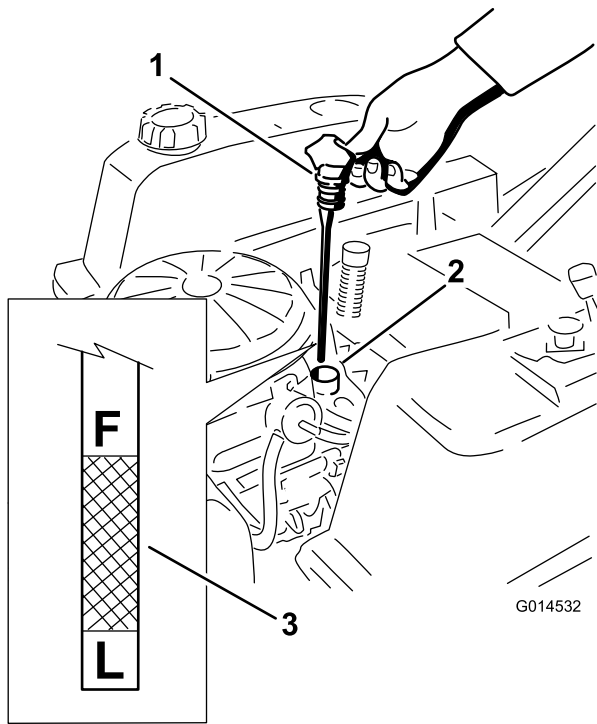
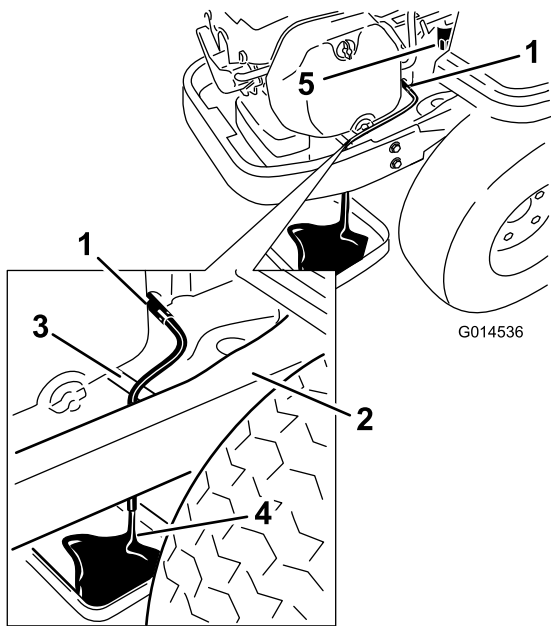

Figure 30
Figure 32
- Remove the dipstick and check the oil level. (Figure 30).
- Place a pan underneath machine directly below the drain hose as shown in Figure 32.
8. Turn the drain valve 1/4 counter clockwise to open and allow the oil to drain (Figure 32). Remove the oil fill cap/dipstick (Figure 30).
10. Remove the old filter and wipe off the mounting pad (Figure 32).
11. When oil has drained completely, close the oil drain valve. Remove the oil drain hose and wipe up any excess oil on the frame (Figure 32).
15. Slowly pour approximately 80% of the specified oil into the filler tube (Figure 30).
16. Install the oil fill cap/dipstick and push firmly into place (Figure 30).
17. Check the oil level (Figure 30); refer to Checking the Oil Level.
19. Install the oil fill cap/dipstick and push firmly into place (Figure 30).